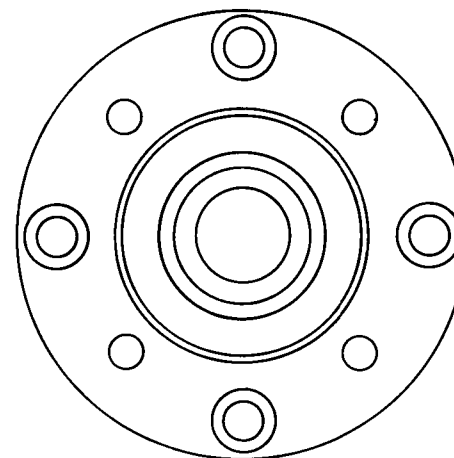

Fig. 12 (Zone 6B)
3. The wheel stud holes should be reamed to $.5 \pm .001$ inch to accept Tilton Engineering studs. The studs (4) locate on a 4½-inch diameter bolt circle (Fig. 12).